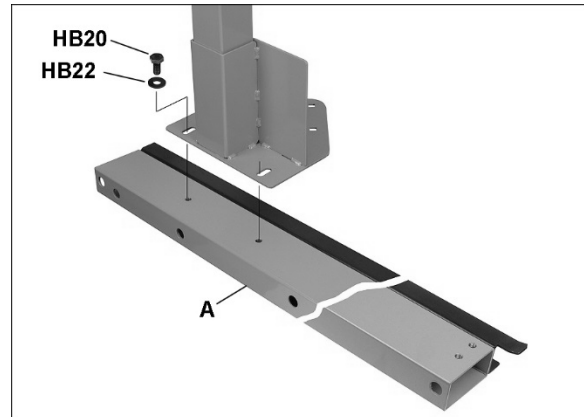

Figure 7-5
4. Position inner guide rail (A) as shown in Figure 7-5, and mount right leg bracket assembly to the threaded holes in rail, in the orientation shown. *Finger tighten screws only.*
6. Fully tighten screws on right leg bracket assembly that secure it to inner rail (Figure 7-5).